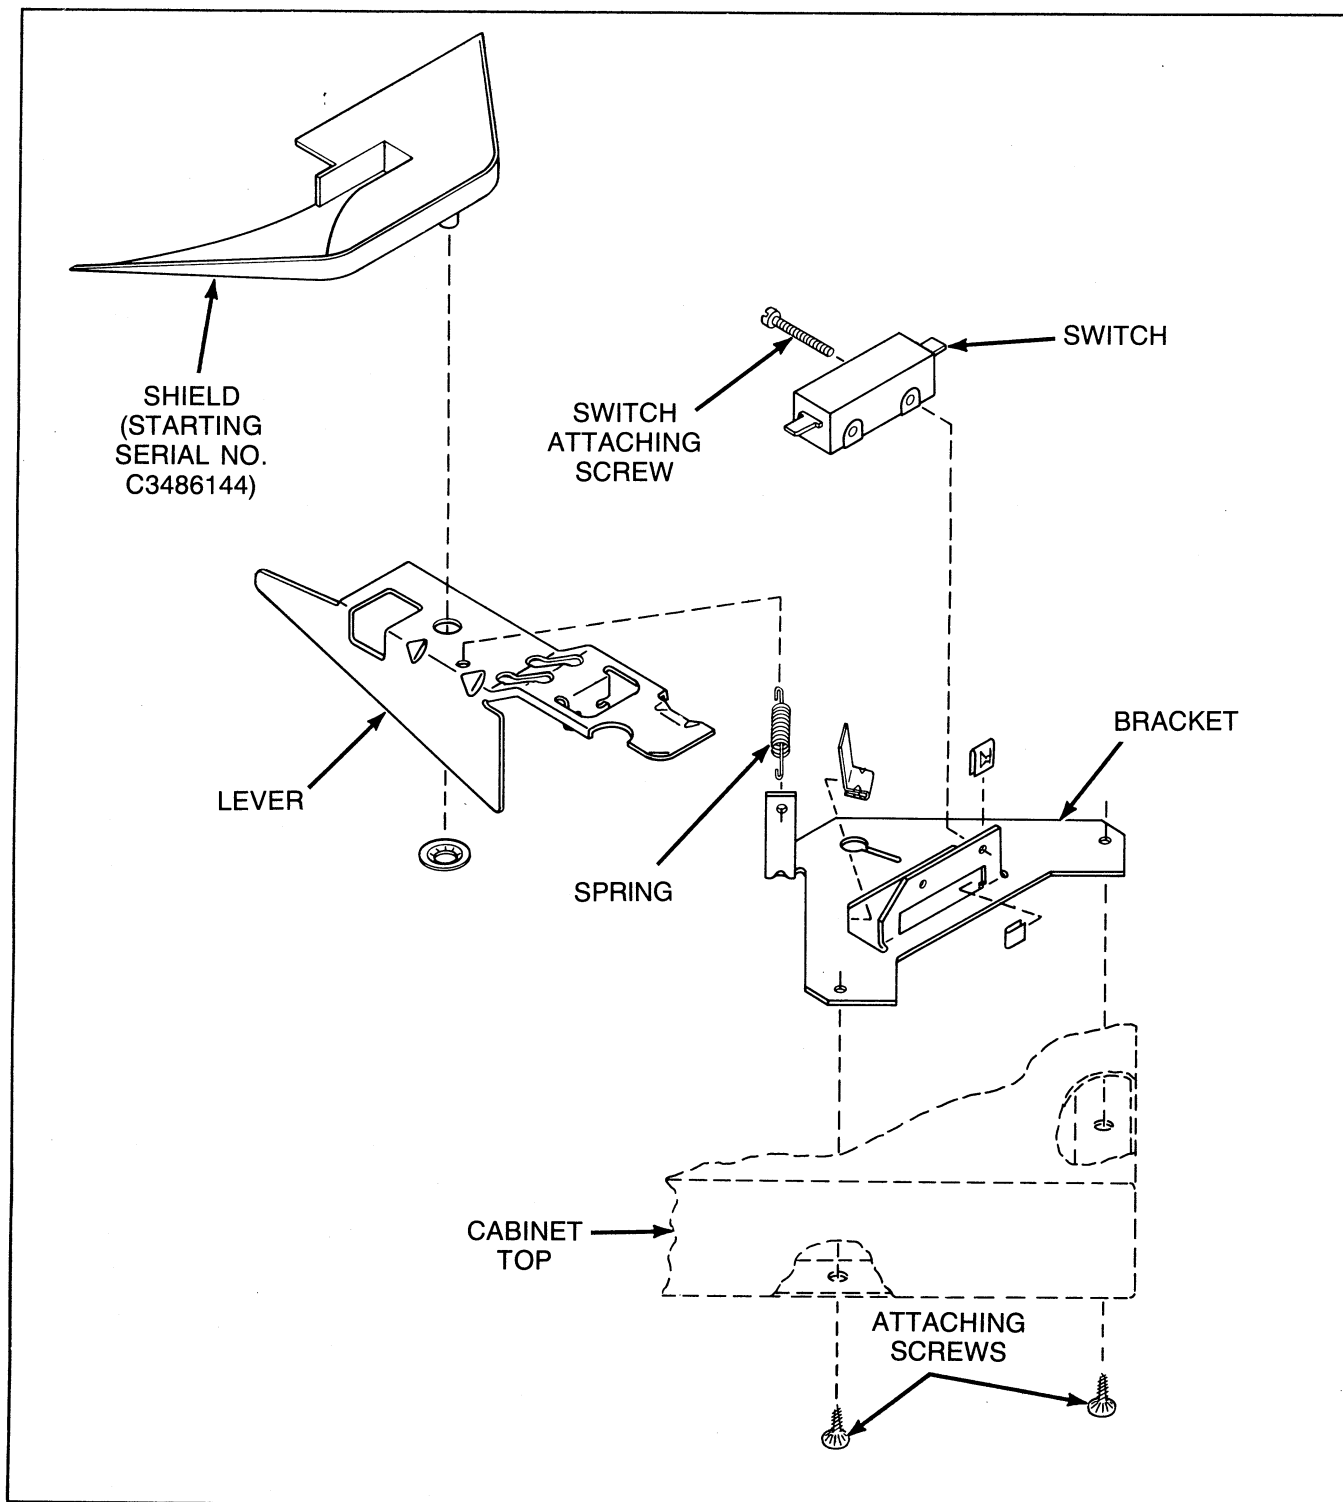

Figure 24
22. DOOR AND OUT-OF-BALANCE SWITCH AND BRACKET ASSEMBLY (Refer to Figure 24)